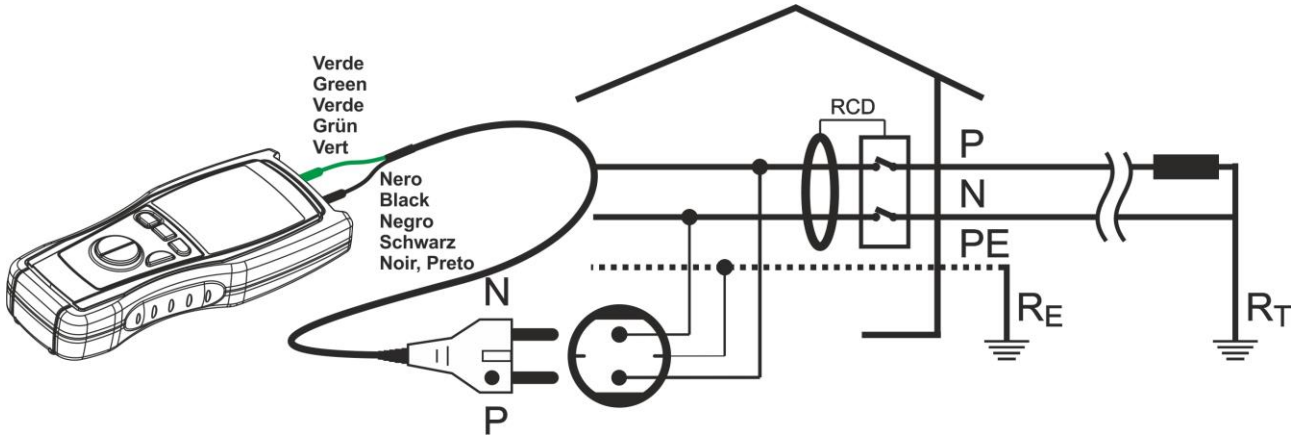

Fig. 13: Connection of the instrument's terminals during test
6. Connect the green cable of the instrument to the protective conductor (earth) and the black cable to the phase conductor (as shown in Fig. 13)
6. Insert the Shuko cable in a power socket (as shown in Fig. 13). The picture represents the connection to power socket